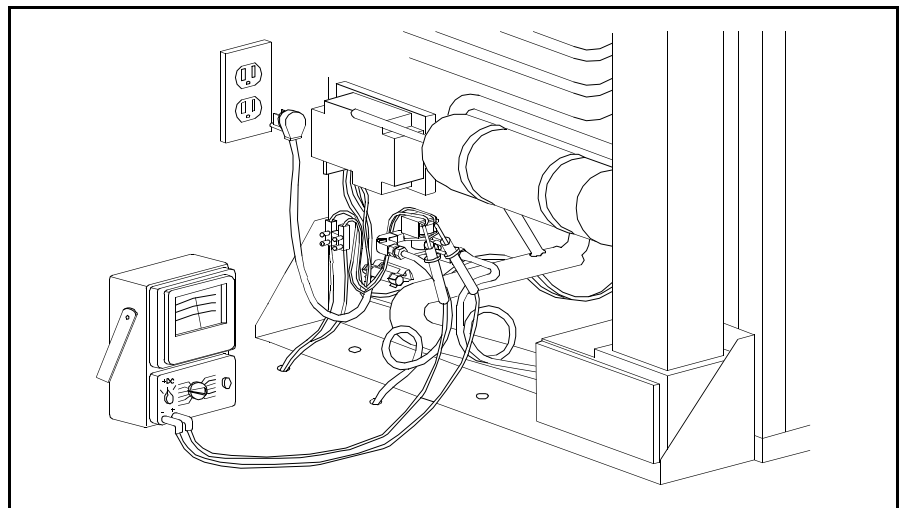

Figure 4.32 12 VDC Check at Gas Valve
14. Check for 12 volts at the Gas Valve terminals as shown in Figure 4.32. If a flame is not established, 12 volts will only be detected during the trial for ignition. A reading of 12 volts confirms that voltage is properly routed to the Gas Valve.